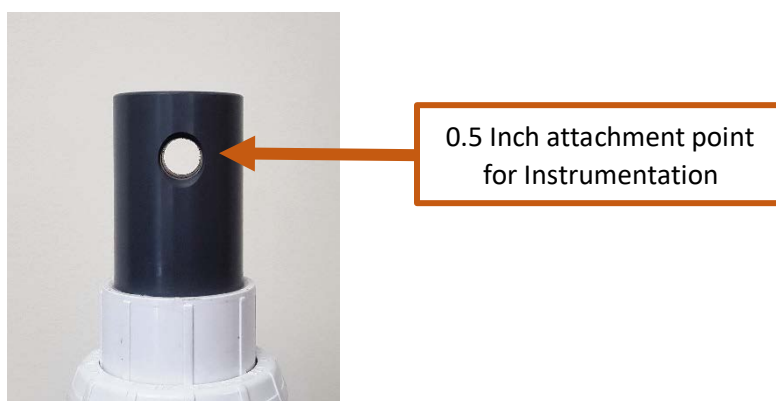

Figure 11
6. If not already done so, attach the user's instrumentation and buoyancy to the top of the recovery system via the 0.5 inch attachment point via a rope, shackle, etc. as shown in Figure 11.